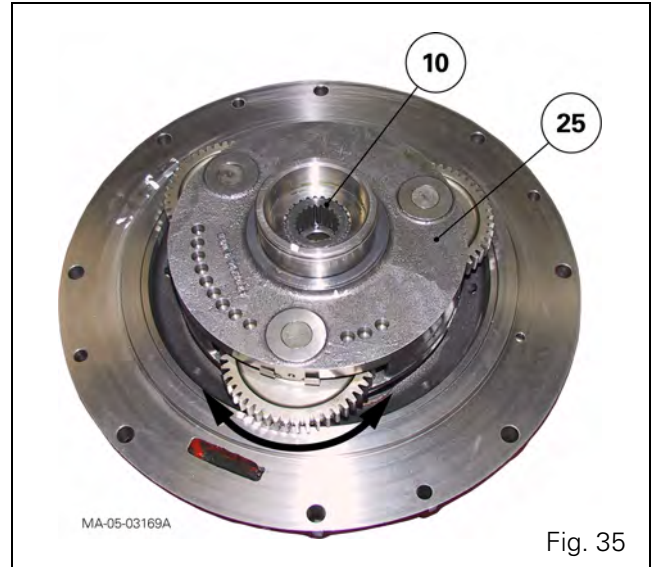

Fig. 35
61. Place the planet carrier (25) on the input shaft (10) (Fig. 35).